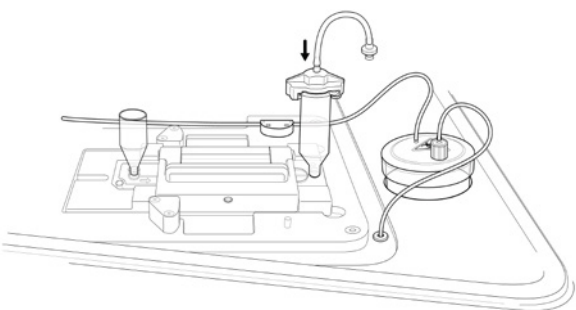

Fig. 28. Attach the Backflow Adaptor.
3. Attach the Backflow Adaptor to the Genesis Priming Reservoir (Figure 28).